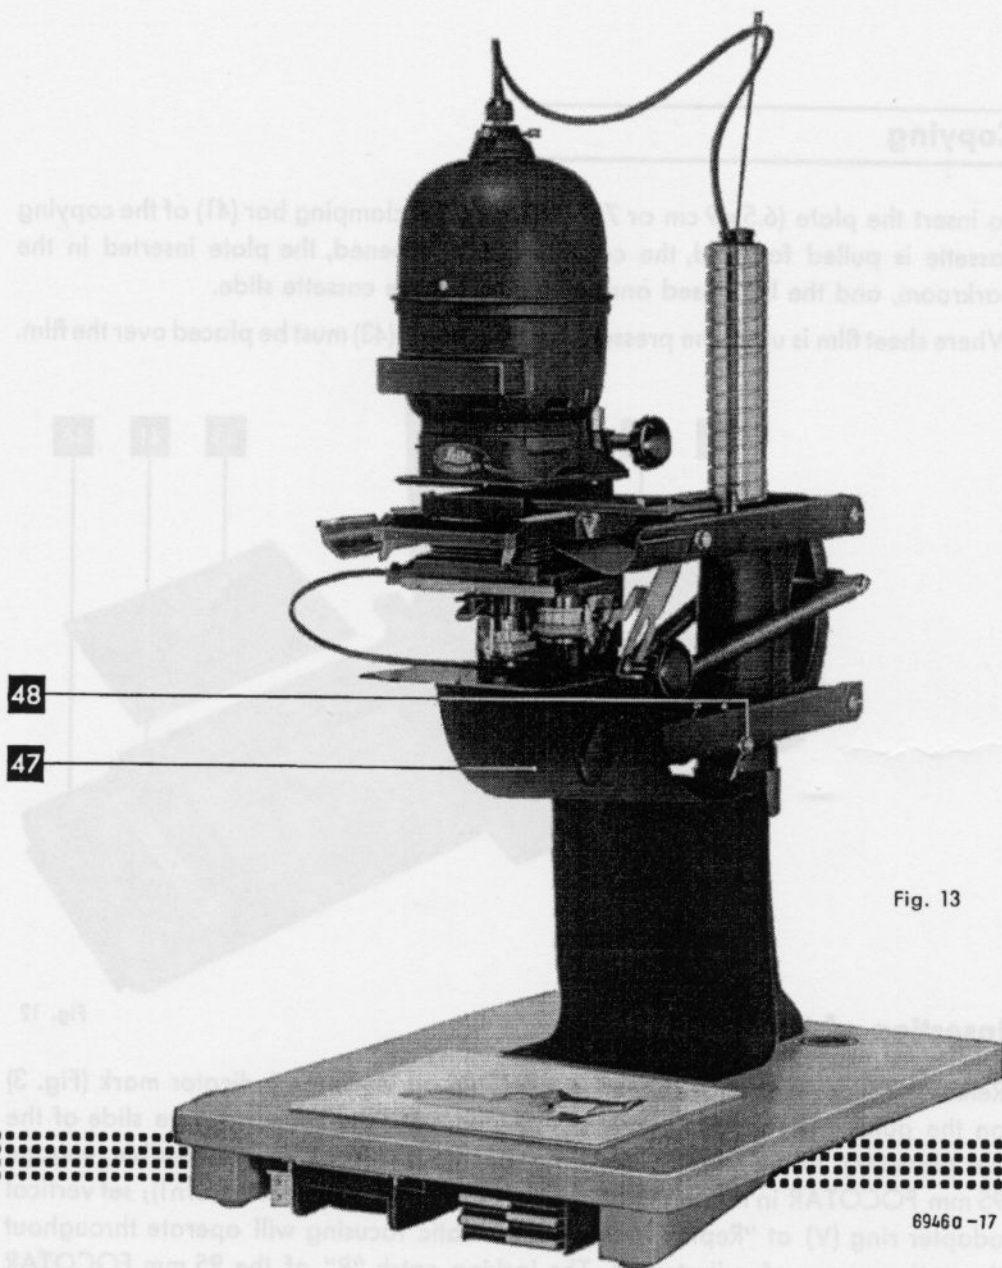

Fig. 13
To eliminate reflections, the light shield (47) is screwed on to the lens carrier (see attachment of orange filter) and suspended from the hexagonal screws of the lower parallellogram arm (48 – Fig. 13) by its loops.